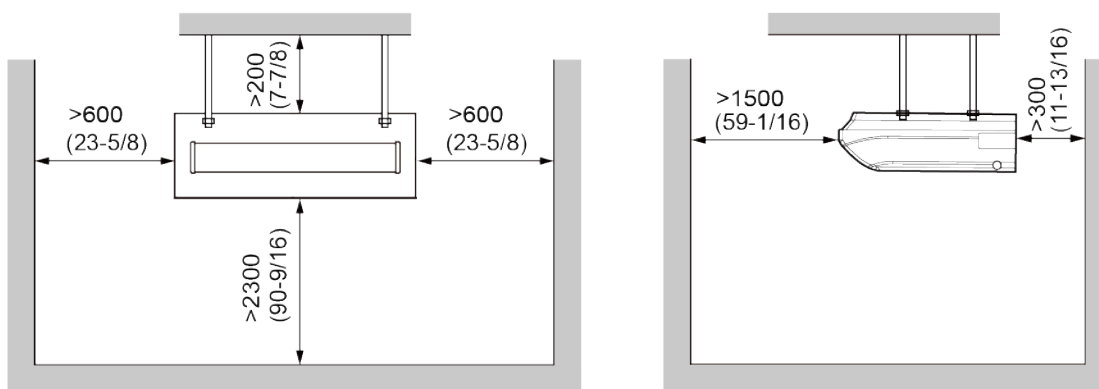

Fig.3.2.1
- (1) The location should be able to withstand the weight of unit.
- (2) The water can be drained conveniently from drainage pipe.
- (3) There should be no obstruction near air inlet and air outlet.
- (4) Follow the installation distance required in the Fig.3.2.1 below to ensure sufficient space for maintenance.
- (5) The installation location should be far from heat sources, flammable or explosive gas, or smog spread in the air.
- (6) The indoor unit, outdoor unit, power cord and connection electricity wire should be at least 1m from television and radio in order to prevent interference and noise (Even though 1m distance is ensured, there may be noise if the electric wave is too strong).